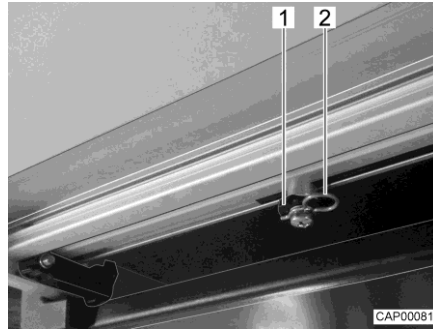

Fig. 4 Drive rod (entrance step)
- On the bottom of the entrance step, pull off both locking clips (Fig. 4,2) on the drive rods (Fig. 4,1).